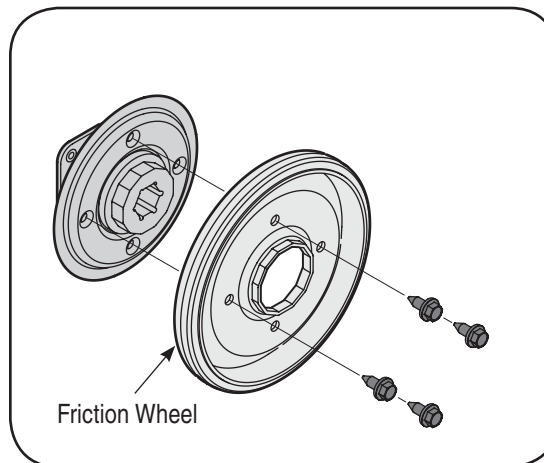

Figure 6-13
- Remove four screws securing the friction wheel rubber between the friction wheel plates. See Figure 6-13. Discard old rubber.